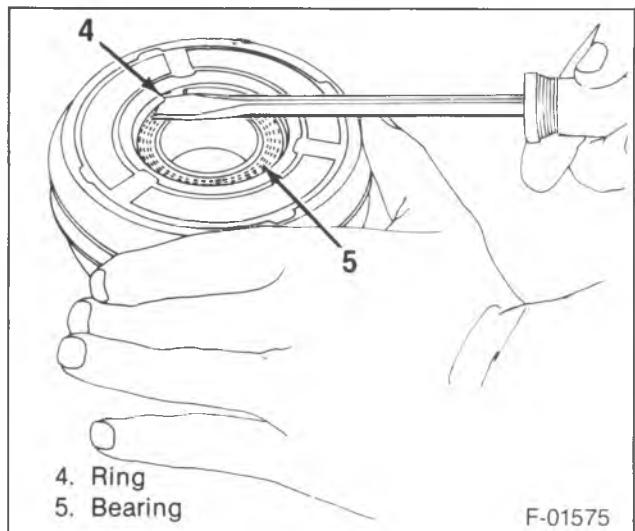
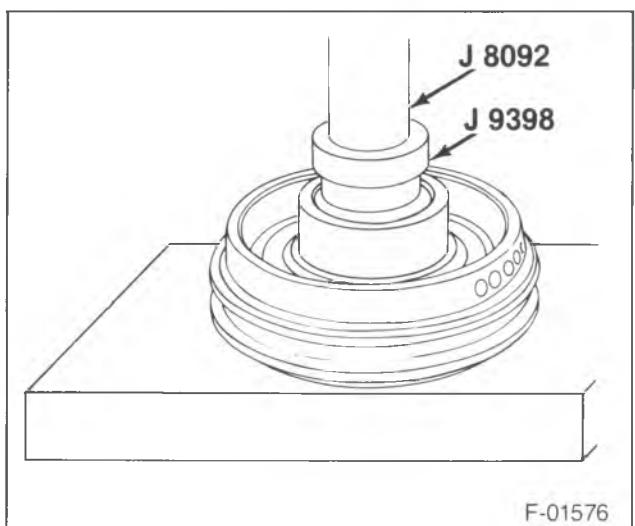

Figure 8—Removing the Pulley and Bearing Retainer Ring
Figure 9—Removing the Bearing from the Pulley
4. Bearing (5) from the pulley (6) (figure 8).
- Remove the retaining ring (3).
- Pulley (6) to J 21352 (figure 9).
- Drive the bearing 95) from the pulley (6) with J 9398 and J 8092.